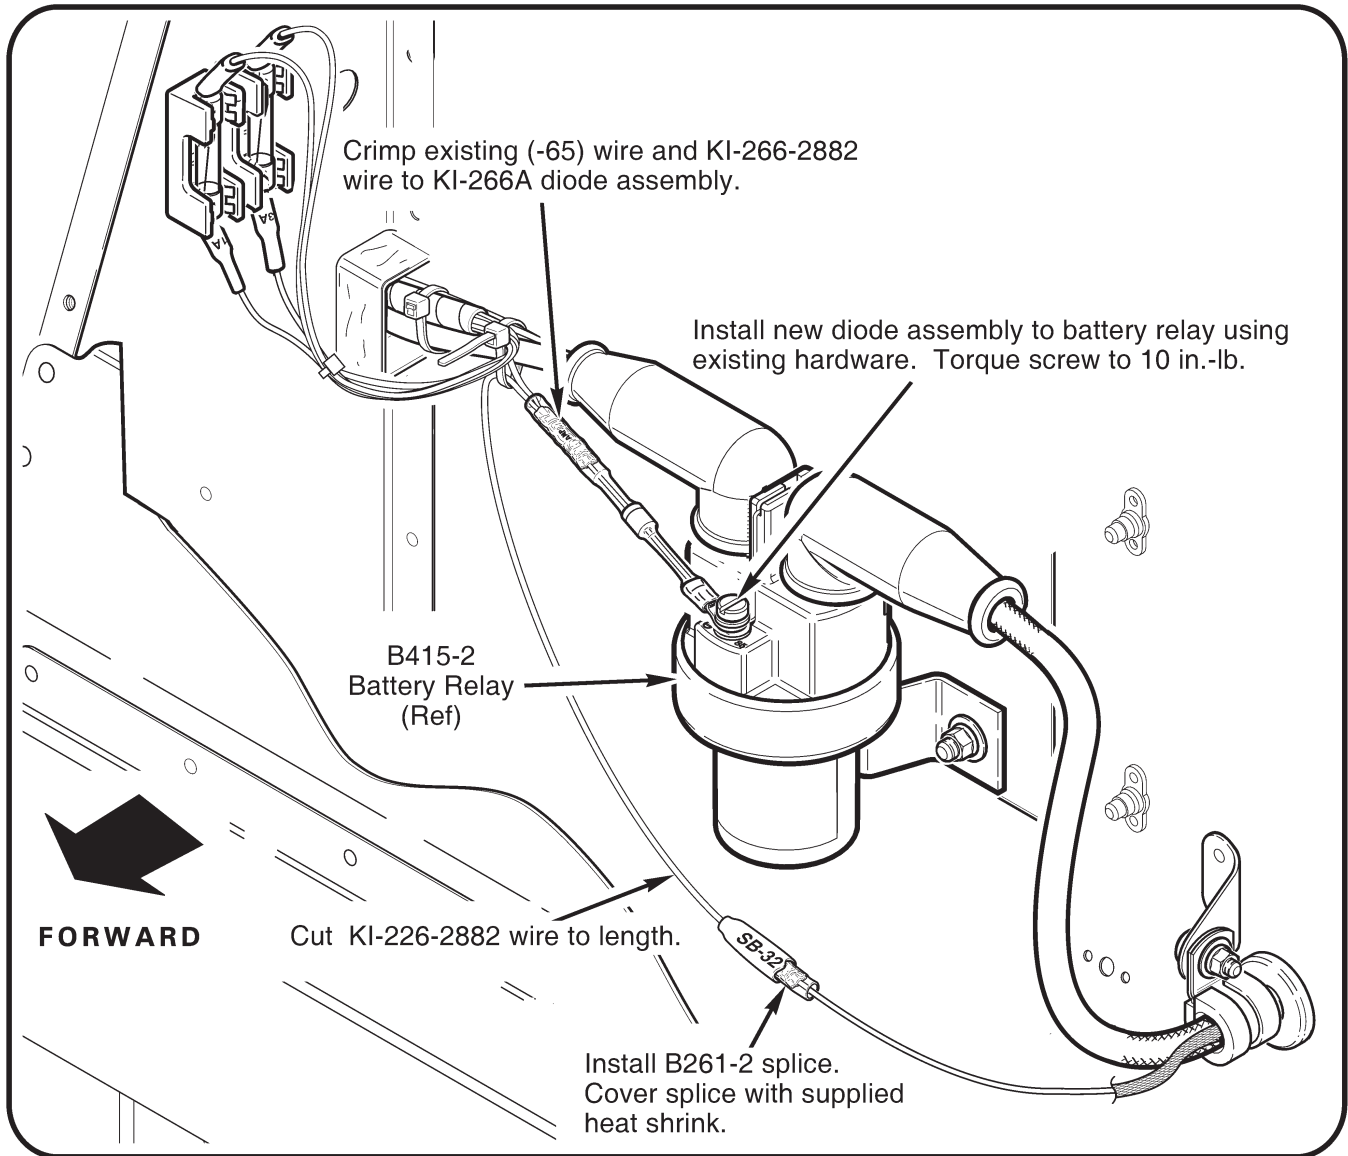

FIGURE 2 Installation of supplied diode assembly
5. Refer to Figure 2. Strip one end of KI-266-2882 wire. Crimp existing (-65) wire & KI-266-2882 wire to KI-266A diode assembly’s B261-2 splice. Verify security of crimp.